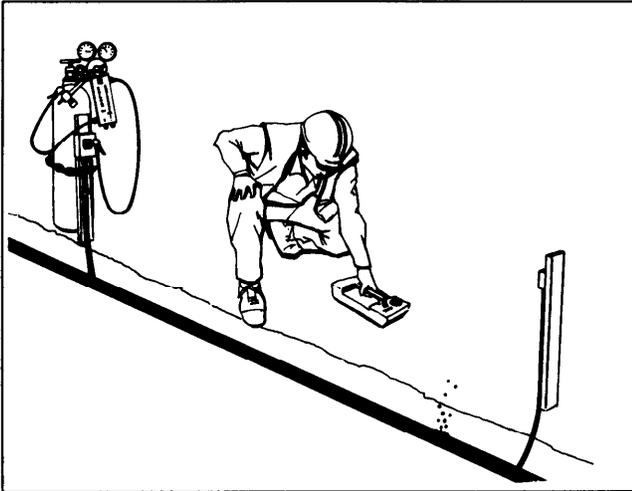

Fig. 4 - Charging Cables
5.21 Buried cables are charged with helium at the valve points closest to the leak location on the air source side of the leak (central office dryers, pole mounted dryers or nitrogen tanks) (Fig. 4)
5.23 Helium will appear directly over the path of the cable at the point the cable is leaking. It is important to carefully mark the path of the cable before using the Model 1820A Helium Detector. Precise cable path location can be accomplished while the cable is being heliumized (Fig. 4).